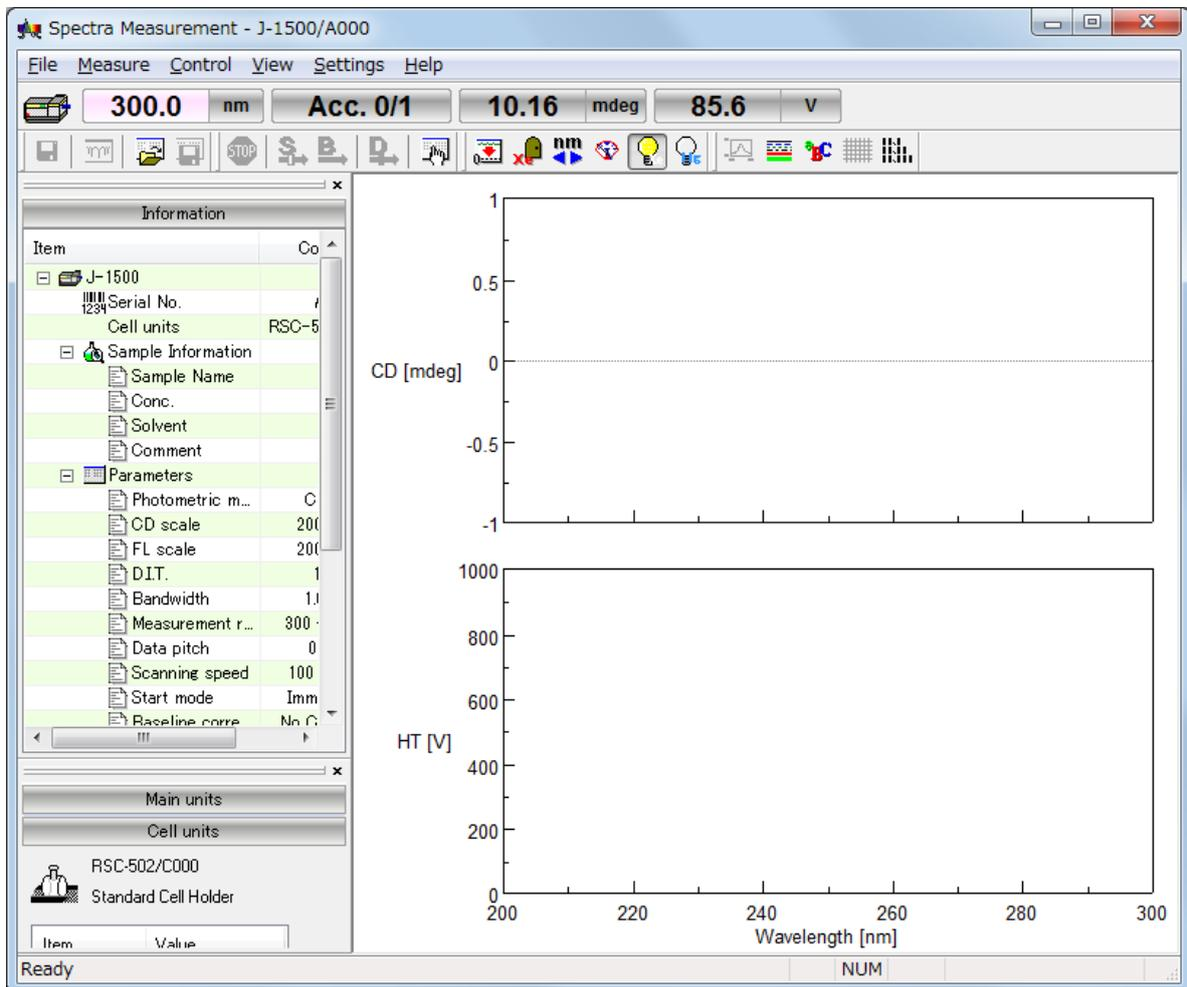

Figure 2.22 [Spectra Measurement] window
- (2) Start the [Spectra Measurement] program to measure a sample.
- Double-click [Spectra Measurement] from the [Instrument] list of [Spectra Manager] to start the program. The window in Fig. 2.22 is displayed.